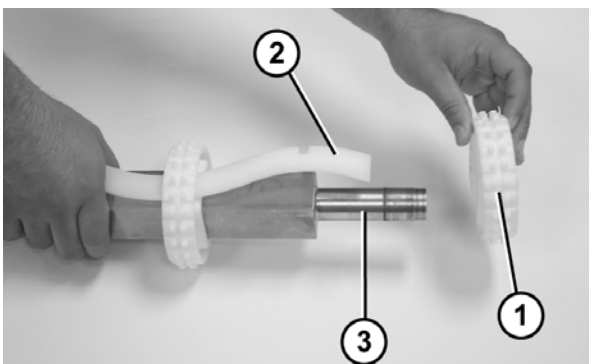

Figure 58
10. Slide the sprockets (Figure 58, item 1) and the sprocket alignment bar (Figure 58, item 2) off the drive spindle (Figure 58, item 3).